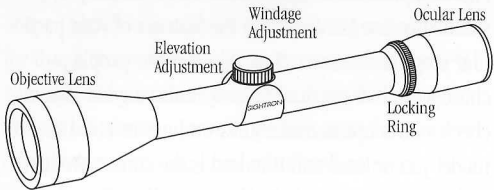

Figure 1
**SI and SII Models:** Loosen the locking ring and turn or rotate the eyepiece clockwise or counter clockwise as needed. When the reticle appears clear and sharp retighten the locking ring. (Figure 1)